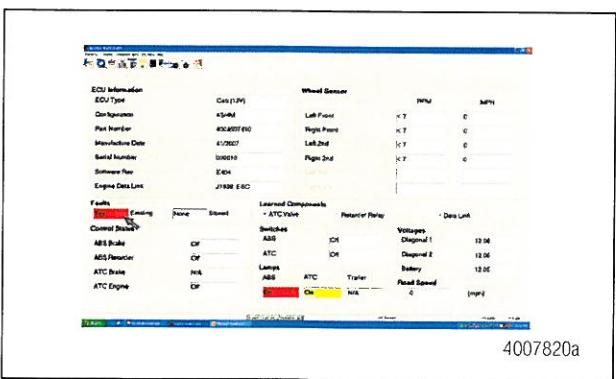

Figure 10
- To verify status of the ESC initialization, double-click on the fault box from the initial screen. Figure 10.